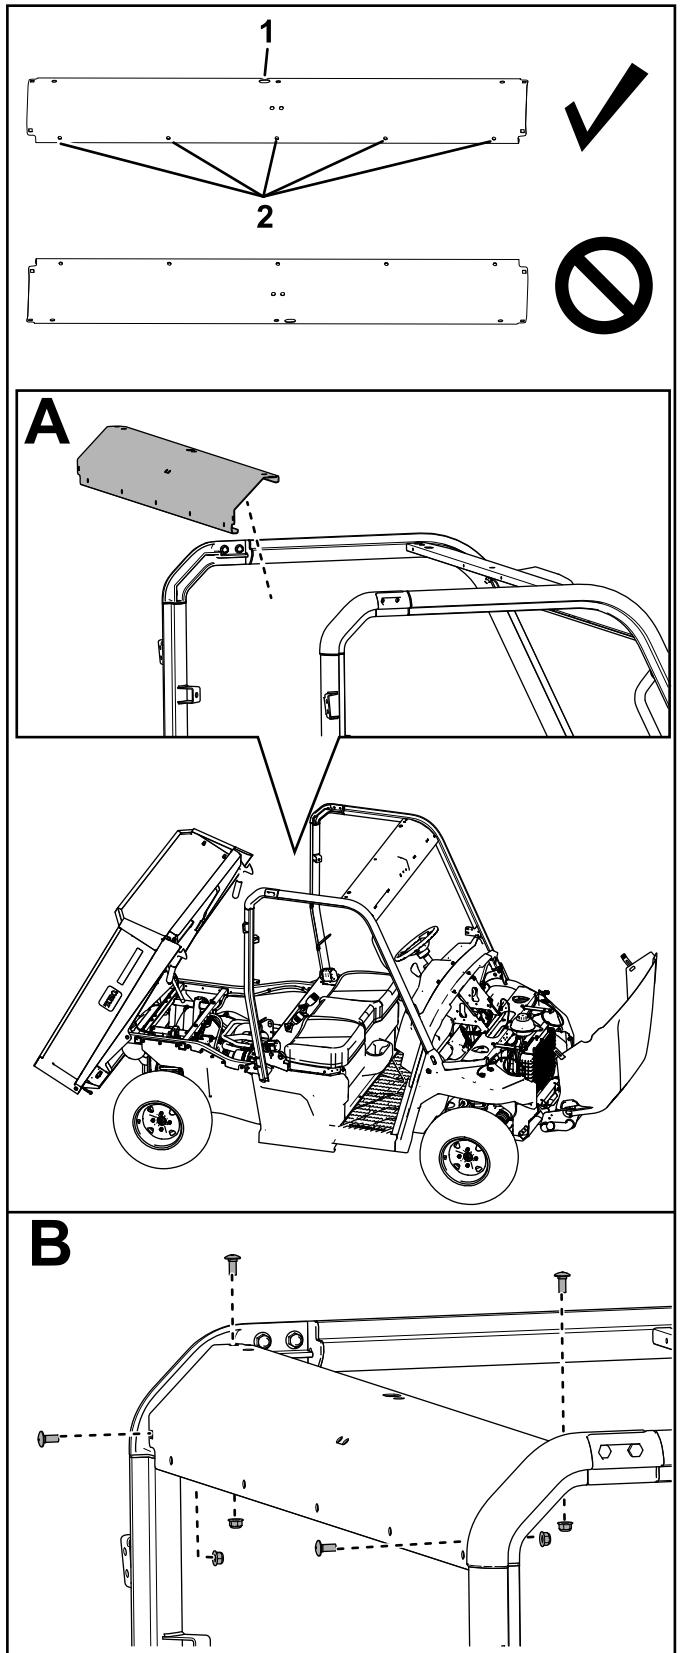

Figure 17
12. Secure the rear crosslink to the rear roll bar assemblies using 4 carriage bolts (5/16 x 3/4 inch) and 4 locknuts (5/16 inch) as shown in Figure 17.
Ensure that you position the crosslink as shown in Figure 17.